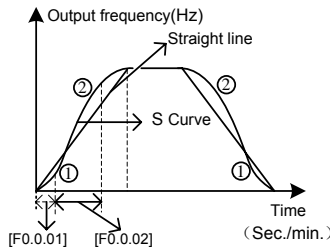

Figure 7-21 Acceleration and deceleration curve
As shown in item ① in Figure 7-21, the acceleration starting/deceleration ending period of S curve is indicated by the percentage of the total acceleration and deceleration time.
As shown in item ② in Figure 7-21, the acceleration rising/deceleration decreasing period of S curve is indicated by the percentage of the total acceleration and deceleration time.